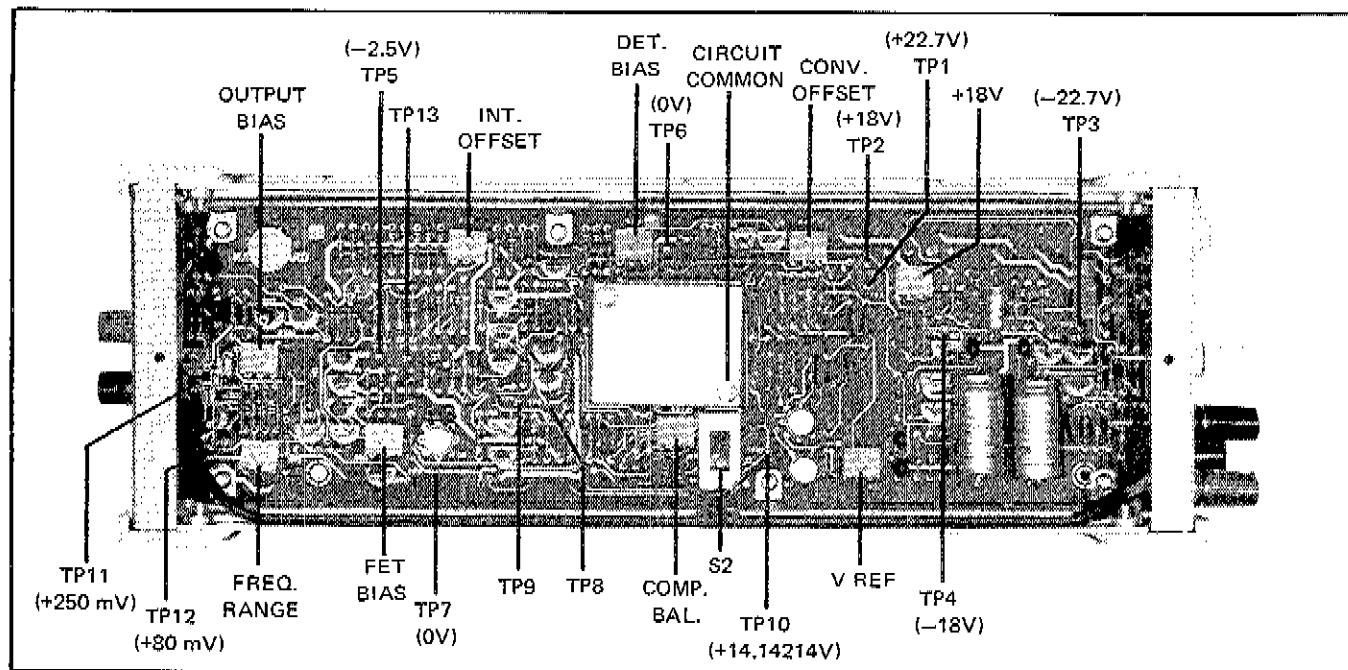

Figure 4-1. ADJUSTMENT AND TEST POINT LOCATIONS
- a. Turn off the Model 510A and remove the top dust cover. Access is provided to all adjustments and test points shown in Figure 4-1.
4-37. All calibration test points and adjustments are shown in Figure 4-1. These calibration points are accessible after removal of the top dust cover. Required test equipment is listed in Table 4-1.
a. Remove the top dust cover. Adjustment and test point locations are shown in Figure 4-1.